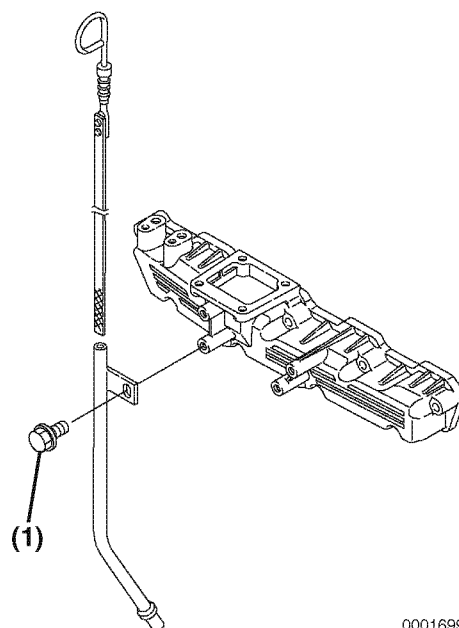

Figure 7-60
Note: It is necessary to remove the bolt (**Figure 7-60, (1)**) holding the dipstick tube clamp. Rotate the dipstick tube to one side to allow you to remove the high pressure fuel line assembly.